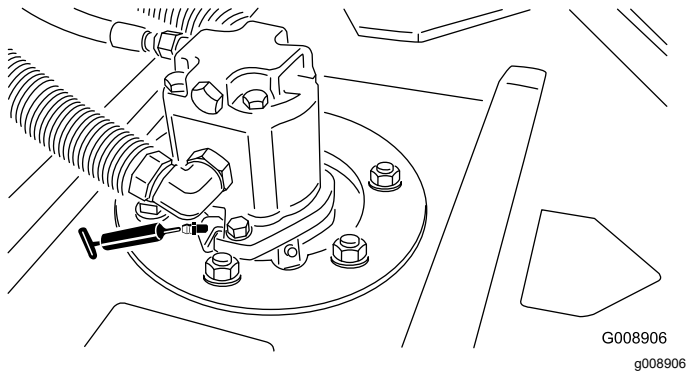

Figure 44
- 2 (per cutting unit) cutting unit spindle-shaft bearings (Figure 44)